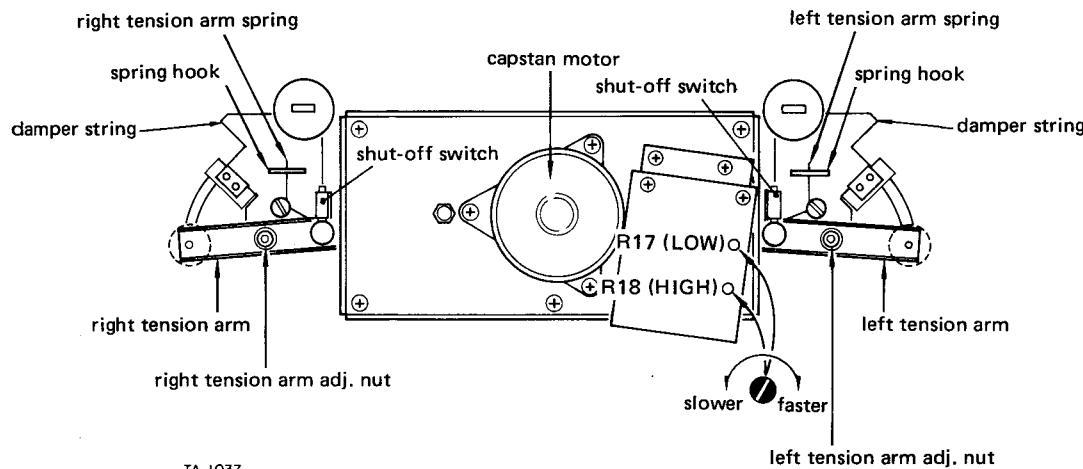

Fig. 2-9 Tension arm height, tension arm force, damper function, and tape speed
3. Stop left (right) guide roller's rotation by hand. Adjust by turning the left (right) tension arm adjusting nut (refer Fig. 2-9) so that the tape moves in the center of the guide roller.
3. Play the tape. Adjust R18 (see Fig. 2-9) for a reading of 3,000 Hz  $\pm 5$  Hz.